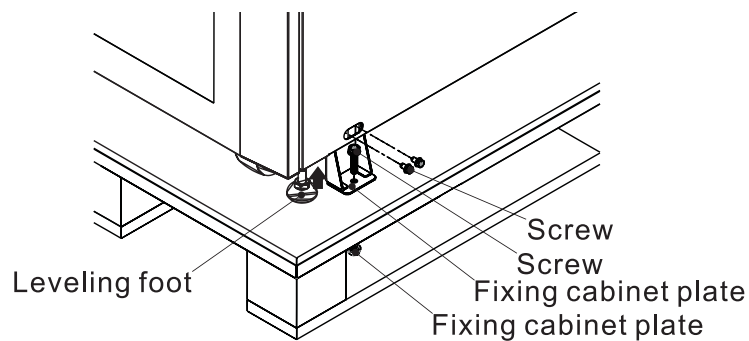

Figure 4.4
3. Remove the four fixing plates (Figure 4.4) and loosen the leveling feet by rotating them counterclockwise, raising them above the level of the casters. The UPS cabinet may now be rolled off the pallet and down the ramp. At least three people should be present to move the UPS to the installation area, two to support either side of the UPS and a third to guide the UPS into its final location.